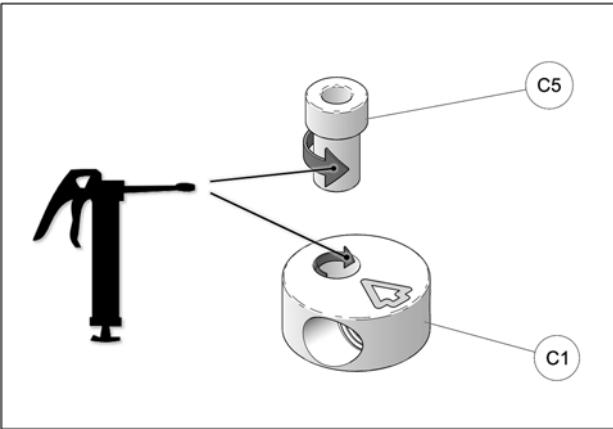

Fig. 20
- Apply grease evenly all around step spacer bushing (C5) and in hole of aluminum disk (C1) when assembling these parts together. See Fig. 20